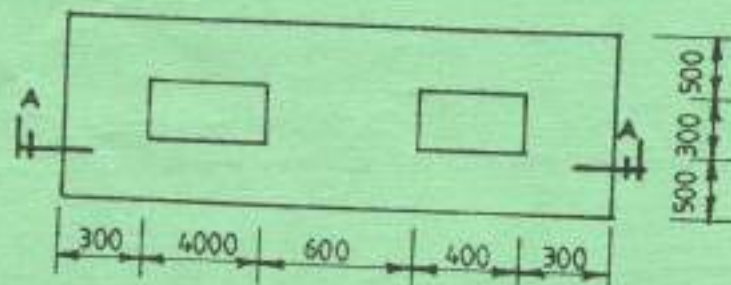

Fig. 4
- (b) Figure 4 shows a combined column base for a one storey building. Using the data in Table 2 and to a scale of 1:25, draw: